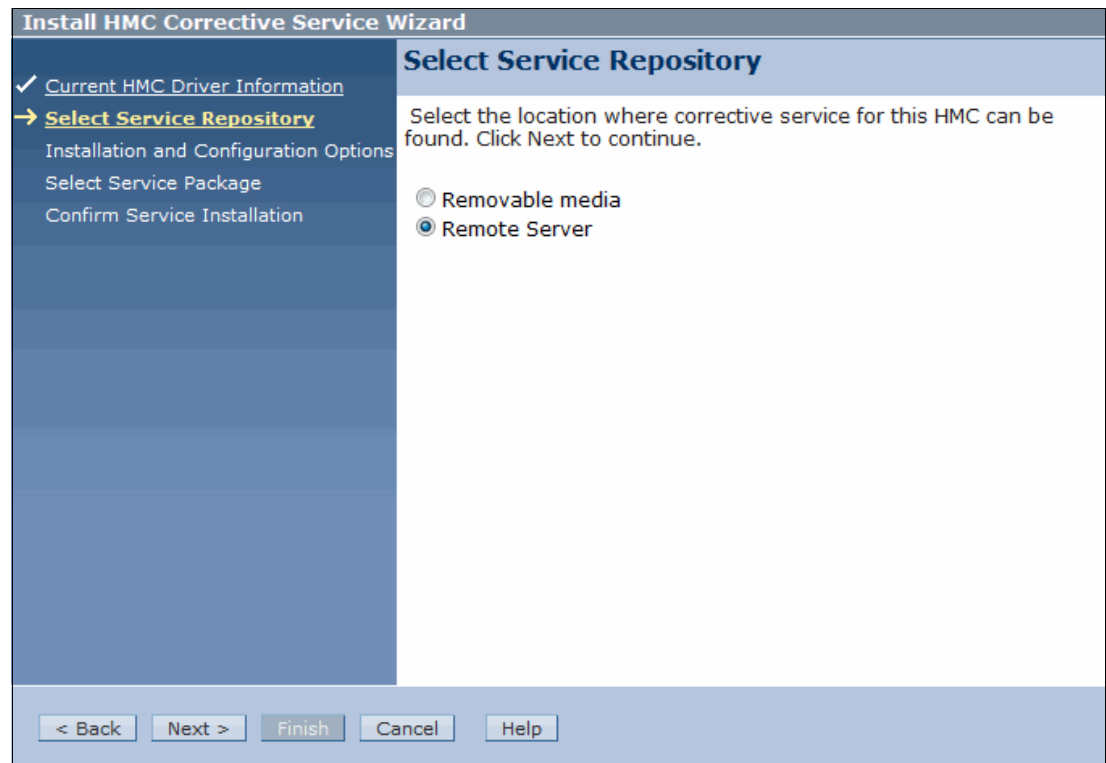

Figure 3-116 Select Service Repository
4. This example uses a remote server. In the Select Repository panel (Figure 3-116), choose **Remote Server**, and click **Next**.